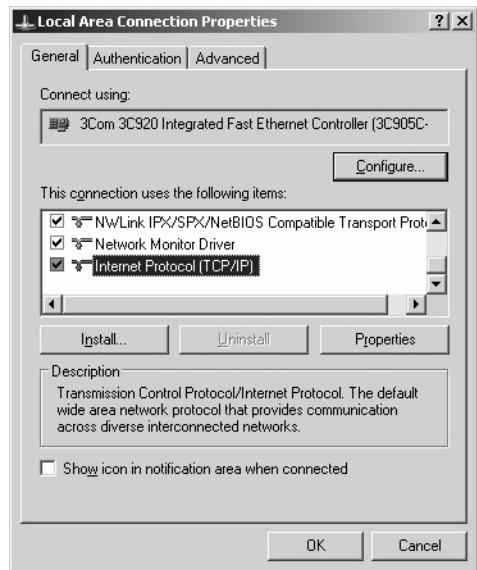

Figure 13: Local Area Connection Properties
3. Click the **Properties** button to open the Connection Properties window (Figure 13).